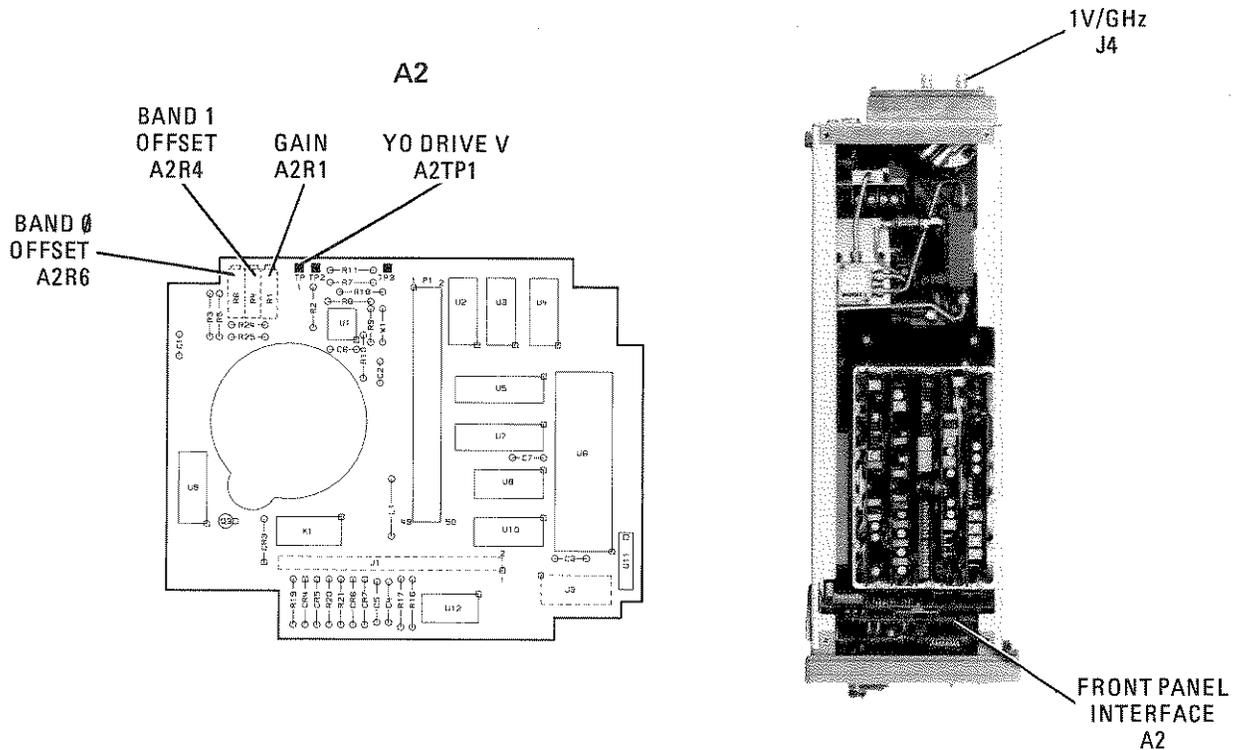

Figure 5-18. Frequency Reference Adjustments Location
1. Connect a DVM to A2TP1 (Figure 5-18).
4. Adjust A2R4 "BAND 1 OFFSET" (Figure 5-18) for the voltage that corresponds to the CW frequency (example: 6.4 GHz = +6.4 Vdc).